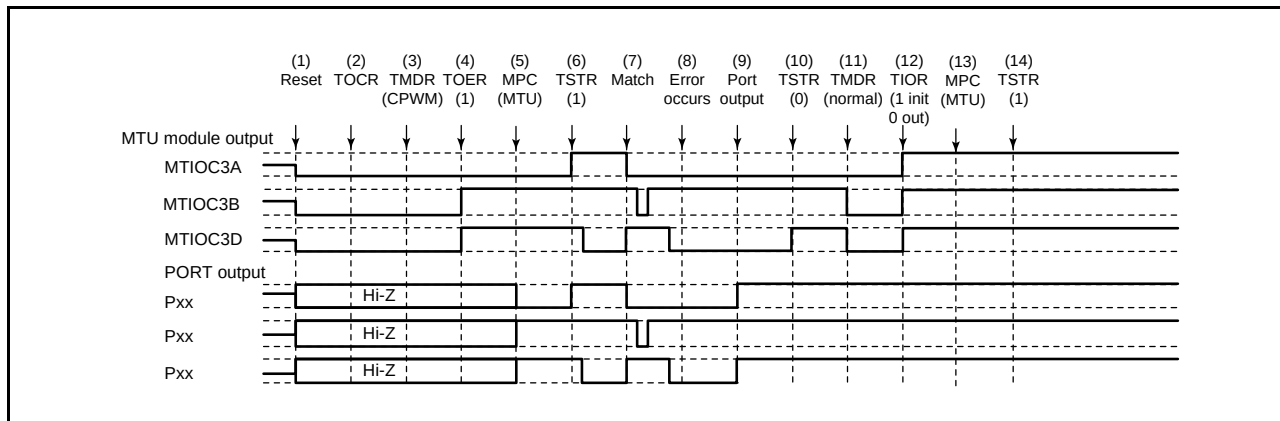

**Figure 19.163 Error Occurrence in Complementary PWM Mode, Recovery in Normal Mode**
Figure 19.163 shows a case in which an error occurs in complementary PWM mode and operation is restarted in normal mode after re-setting.
(1) to (10) are the same as in Figure 19.163.
(11) Set PWM mode 1 (MTU output goes low).
(12) Initialize the pins with the TIOR register. (In PWM mode 1, waveforms are not output to the MTIOCnB (MTIOCnD) pins. To output a specified level, make necessary settings for general output ports in the port direction registers (PDR) and port output data registers (PODR) of the I/O ports.)
(13) Set MTU output using the MPC and port mode registers (PMR) corresponding to the I/O ports.
(14) Restart operation by setting the TSTR register.
(11) Set MTU output using the MPC and port mode registers (PMR) corresponding to the I/O ports.
(12) Restart operation by setting the TSTR register.
(13) The complementary PWM waveform is output on compare match occurrence.
(11) Set normal mode and make new settings (MTU output goes low).
(12) Disable output in MTU3 and MTU4 with the TOERA register.
(13) Select the complementary PWM output level and enable or disable cyclic output with registers TOCR1A and TOCR2A.
(14) Set complementary PWM mode.
(15) Enable output in MTU3 and MTU4 with the TOERA register.
(16) Set MTU output using the MPC and port mode registers (PMR) corresponding to the I/O ports.
(17) Restart operation by setting the TSTR register.
(11) Set normal mode (MTU output goes low).
(13) Select the reset-synchronized PWM output level and enable or disable cyclic output with registers TOCR1A and TOCR2A.
(14) Set reset-synchronized PWM mode.